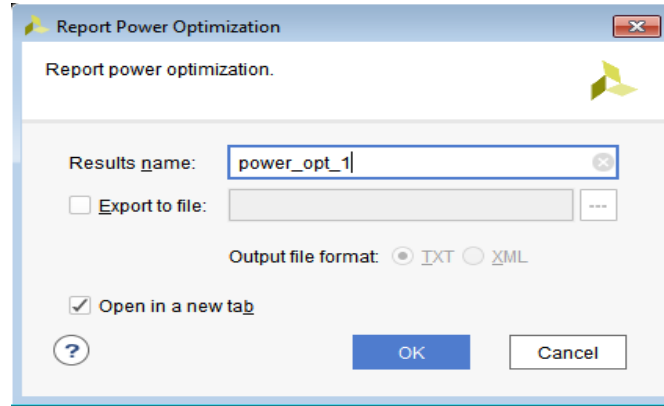

Figure 4-13: Report Power Optimization Dialog Box
3. In the Report Power Optimization dialog box (Figure 4-13), specify the following options.